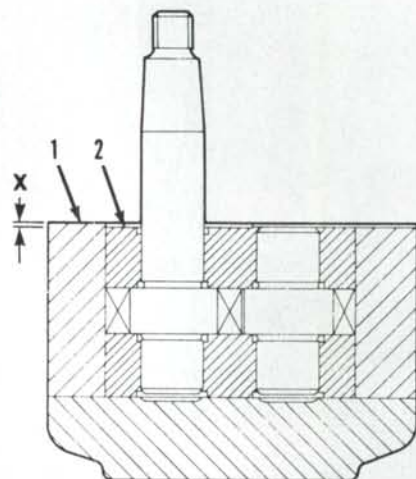

Fig. 258—Measure clearance (X) between surface of pump body (1) and bearings (2). Renew bearings if clearance exceeds 0.2 mm (0.008 inch).
and wear. Assemble bearings and rotors into pump body and front plate as shown in Fig. 258. Measure distance (X) from face of pump body to surface of top bearing. If distance is not within range of 0.1-0.2 mm (0.004-0.008 inch), renew bearings. Be sure bearings slide freely into body bore. Inspect rotors for scoring, wear or damage to teeth and journals.
Inspect pump body bore for wear. It is normal for rotors to cut a light track on inlet side of pump body as bearings wear. If wear marks are deep, renew pump assembly. Do not install new bearings in a worn pump body. Check bearing bores and faces of bearings for scoring and wear. Assemble bearings and rotors into pump body and end plate as shown in Fig. 258. Measure distance (X) from face of pump body to surface of top bearing. If distance is not within range of 0.1-0.2 mm (0.004-0.008 inch), renew bearings. Be sure bearings slide freely into body bore. Inspect rotors for scoring, wear or damage to teeth and journals.